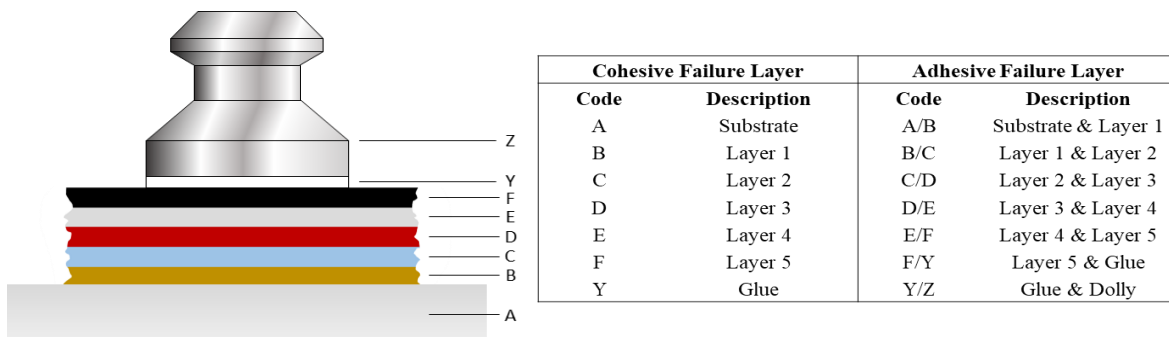

Figure 1. Schematic of test setup for pull-off adhesion strength (left) and ASTM D4541 system for reporting failure modes (right).
A schematic of the test setup is shown in Figure 1, with labels for the substrate (A), coating layers (B – F), epoxy adhesive (Y), and aluminum dolly (Z). In addition to the pull-off strength values that are measured by the instrument, many national and international standards, including ISO 4624 and ASTM D4541, require the nature of the failure to be reported. For this, visual inspection of the failure surfaces is required and cohesive or adhesive failure codes are reported, according to the code system in Figure 1. If the failure occurs within a coating layer, this is referred to as cohesive failure, and it can be identified when the dolly and sample surfaces both have the same coating layer left on them. If a failure occurs at an interface, this is referred to as adhesive failure, and it can be identified when the dolly and sample surfaces have different coating layers left on them.